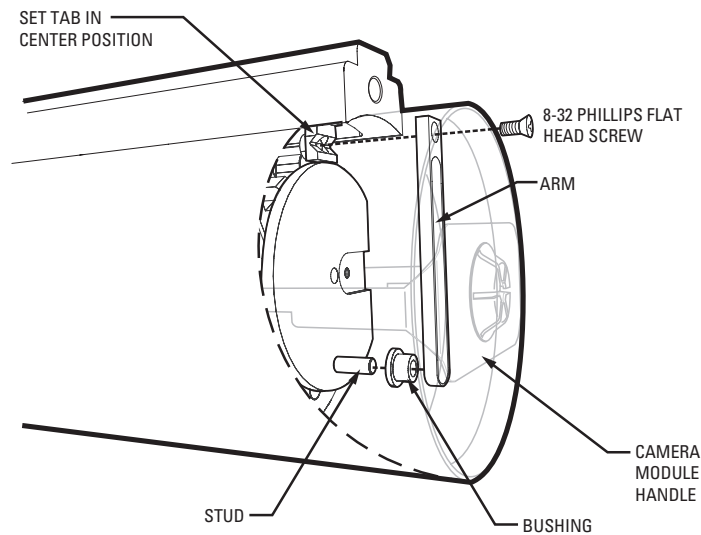

Figure 13. Remove or Install Camera Module
2. Remove the 8-32 Phillips flat head screw that secures the camera module inside the enclosure, refer to Figure 13.
3. For models with wipers, also remove the wiper arm and the green bushing from the unit (see Figure 13).
6. Refer to Figure 13 and do the following to reinstall the arm of the wiper:
7. Secure the camera module and the wiper arm with the 8-32 Phillips flat head screw (refer to Figure 13).